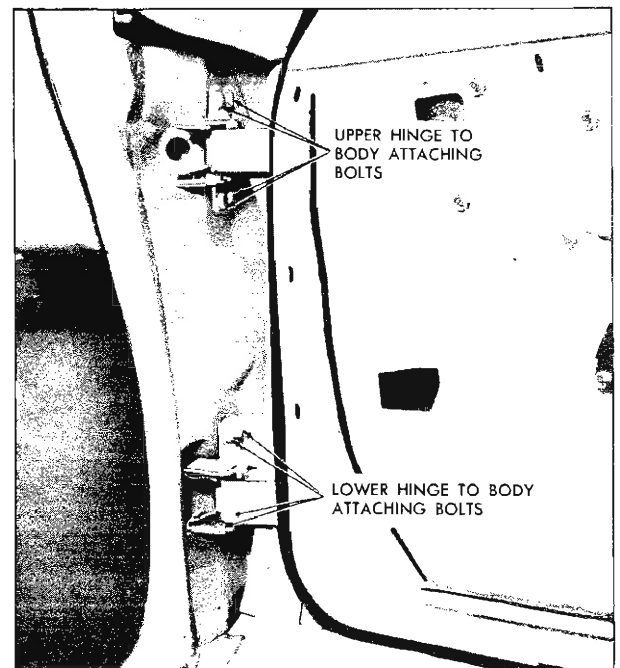

Fig. 12-16 Front Door Hinge Attachment
6. With aid of a helper, to properly support door, remove bolts securing upper and lower hinges to body and remove door assembly with attached hinges from body (See Fig. 12-16).
3. Loosen hinge attaching bolts and shift door to desired position; then tighten hinge attaching bolts (Fig. 12-16).